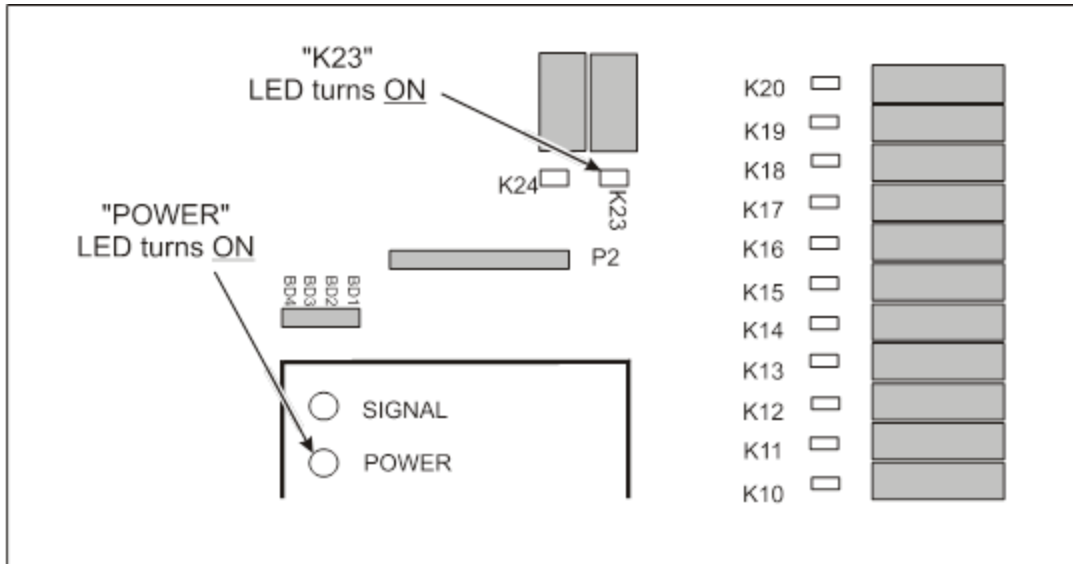

Figure 10: 21R22 Status LED Indicators – Receiver ON (Transmitter OFF)
2. Verify that the POWER LED and the K23 (MLC) LED both turn ON. Refer to Figure 10.